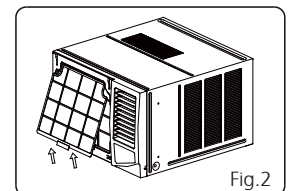

Fig.2
3. Grip the tab on the end of the filter, lift it up, then pull it towards yourself, pull the filter out (see Fig. 2).
1. Insert the air filter into the frame's slot from upside to underside. (See Fig. 2)